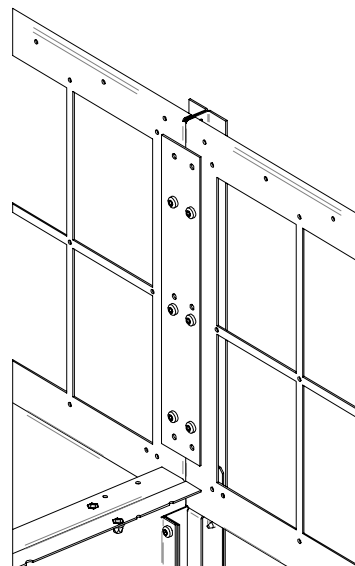

Figure 45. Screws for the top joining plate
- b) Screw the joining plate and the unit plates together (with 6 Torx M6x12 screws) so that they are fully tightened. Insert a bolt (M8x20 round-headed with square neck) with a nut (M8 hexagonal nut with flange) (figure 45) to tighten the units and the joining plate.